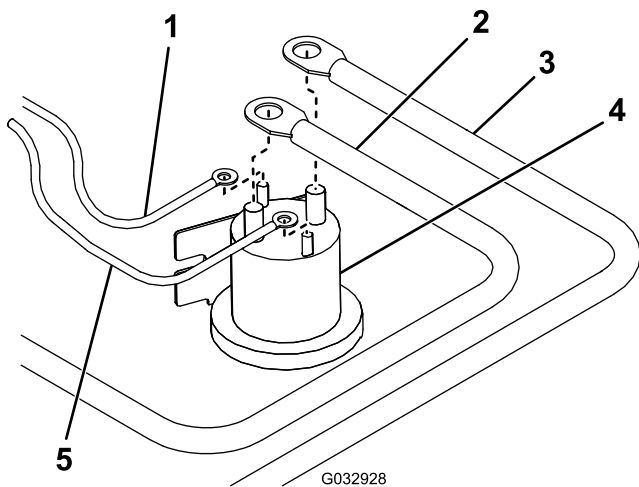

**Figure 1**
8. Pull the plow controller connector and module connector (10-pin Molex Minifit) into the vehicle cab through the hole in the firewall (Figure 1).